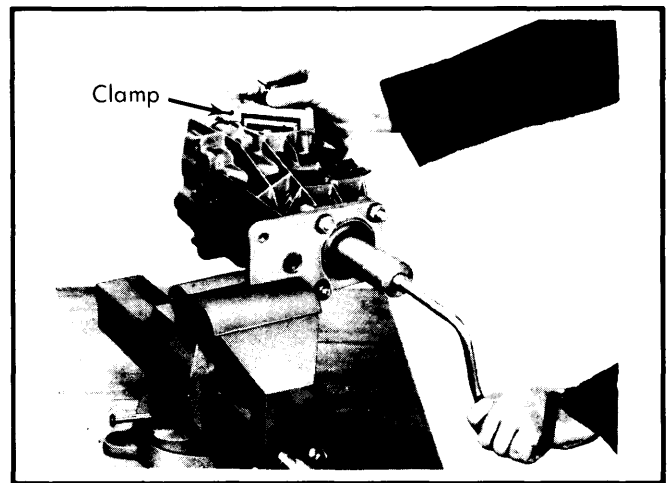

Fig. 18 Installing Tension Tool on Right Side
13) With front housing held by holding fixture, place holding fixture in vise. See Fig. 18. Coat machined surfaces with gasket adhesive. Apply oil to bearing recesses. Install differential assembly. Install rear housing cover with 4 nuts and new washers. Tighten nuts. Install bearing left side plate with new bolts and washers. Tighten bolt. Loosen 4 nuts on rear cover and retighten by hand.